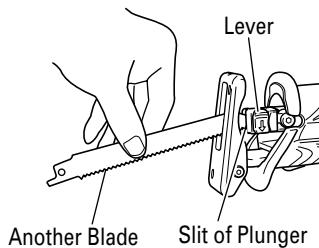

Fig. 8
- (1) If a part of the broken saw blade is sticking out of the small slit of the plunger, pull out the protruding part and take the blade out.
(2) If the broken saw blade is hidden inside the small slit, hook the broken blade using a tip of another saw blade and take it out. (Fig. 8)